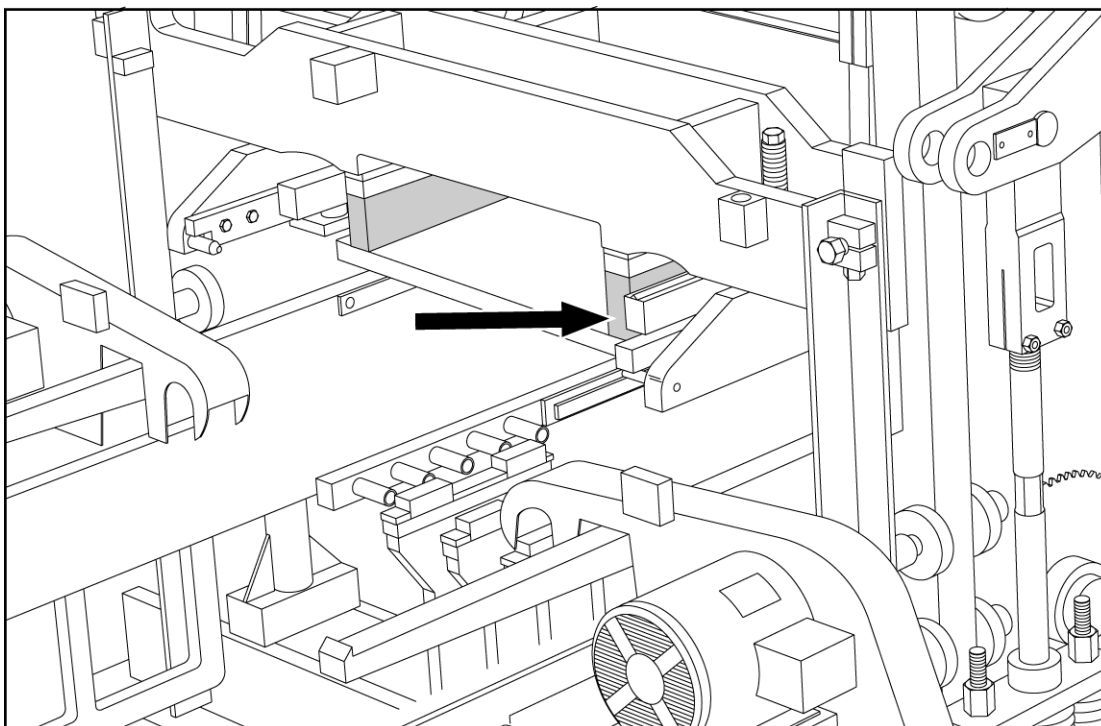

Figure 4.30 2 1/8" [54MM] BLOCKING UNDER STRIPPER HEAD FRAME
- 4.2.8 The ULTRAPAC II is now ready for the installation of the mold assembly. Follow the directions for installing an attachment in section 5 of this manual. When installing the stripper head, insert **2 1/8" [54mm]** of blocking in addition to the **1 1/2" [38 mm]** blocks already affixed to the stripper head frame (figure 4.30). The above blocking assumes a stripper head height of **14 3/16" [360mm]** from the top of the head plate to the bottom of the shoes.